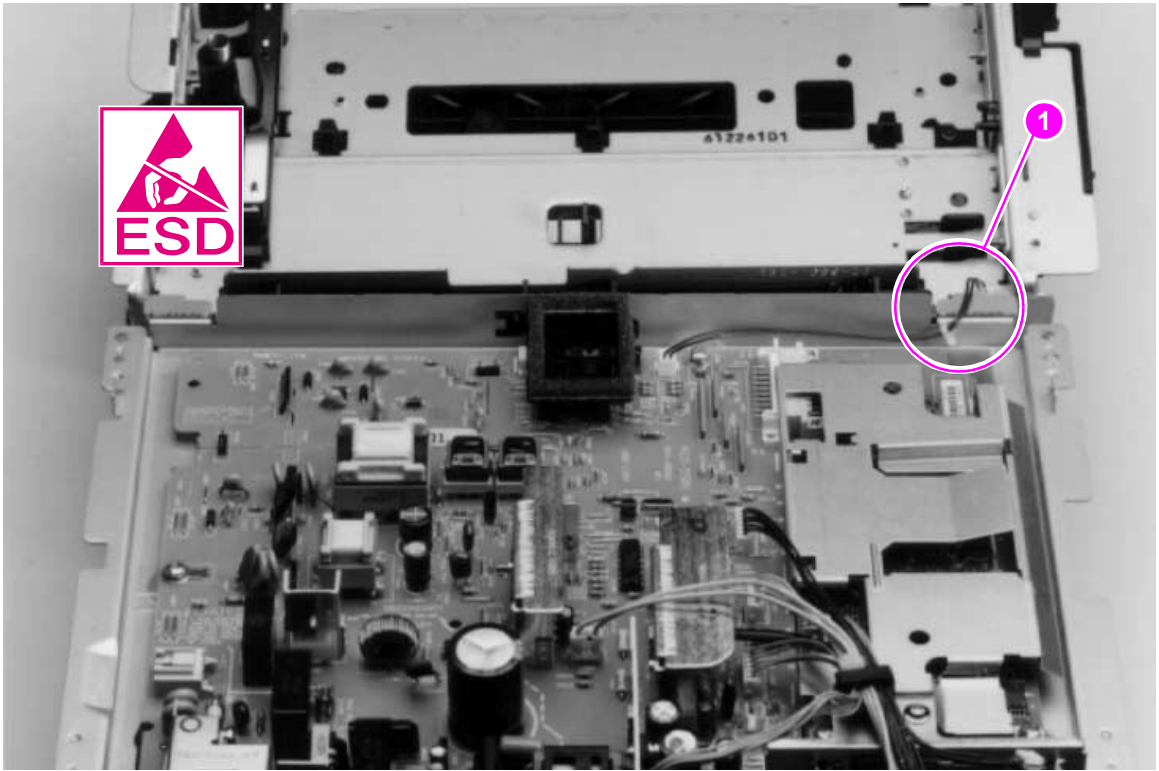

Figure 6-41 DC Controller removal (2 of 3)
- 8 Lift the bottom plate, rotating the plate toward you from the back as if hinged on the front. Release the Fusing Assembly connector (J206) (Figure 6-41, callout 1).